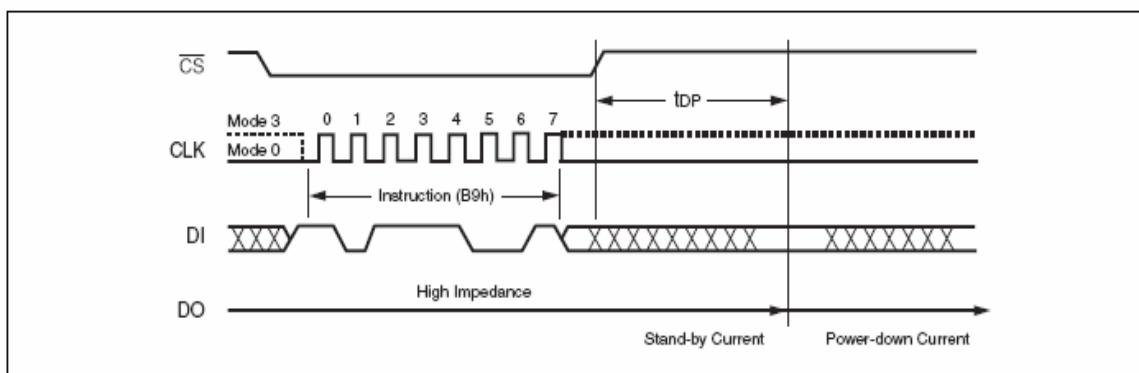

Figure 14. Deep Power-down Instruction Sequence Diagram
The instruction sequence is shown in Figure 14..Chip Select (CS#) must be driven High after the eighth bit of the instruction code has been latched in, otherwise the Deep Power-down (DP) instruction is not executed. As soon as Chip Select (CS#) is driven High, it requires a delay of t_{DP} before the supply current is reduced to ICC_2 and the Deep Power-down mode is entered.